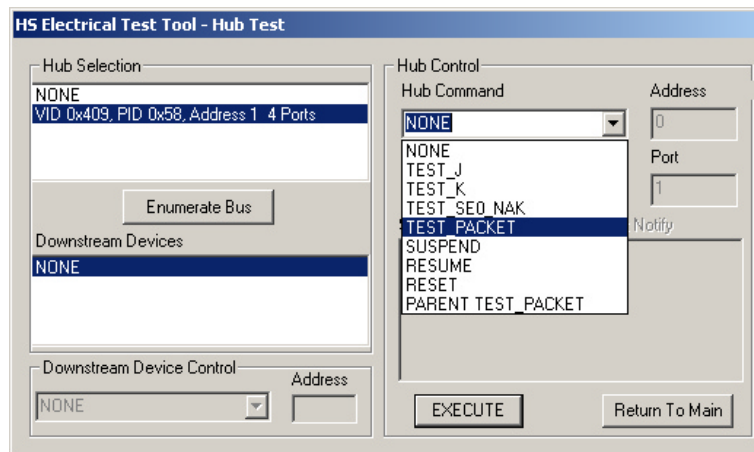

Figure 5. Hub Upstream TEST_PACKET
9. Select TEST_PACKET from the Hub Command drop down menu and click [EXECUTE] (Figure 5)